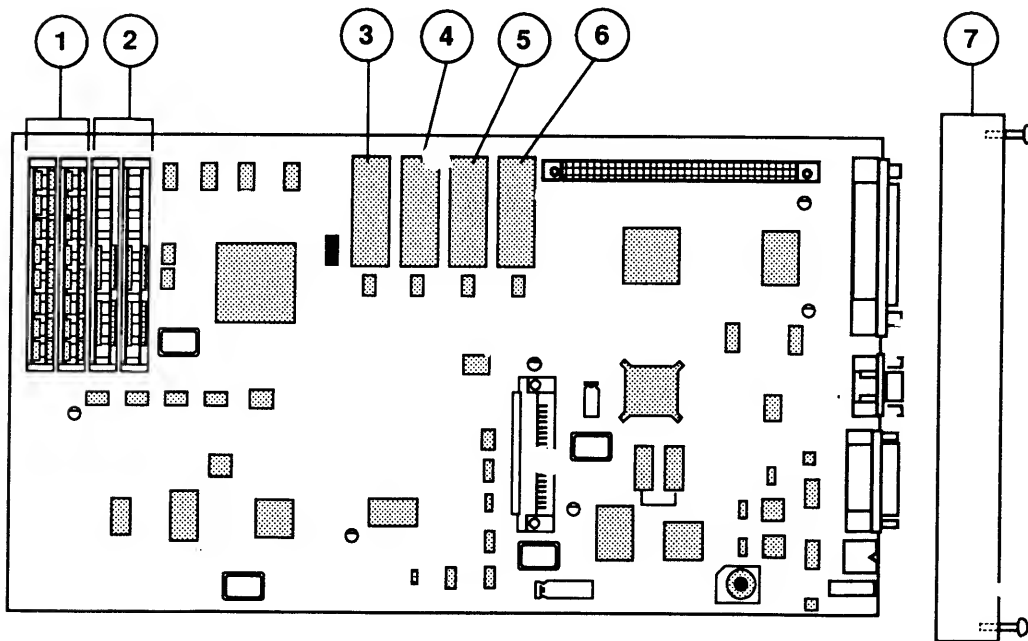

FIGURE 29
□ LASERWRITER IIfg CONTROLLER-I/O BOARD (Figure 29)